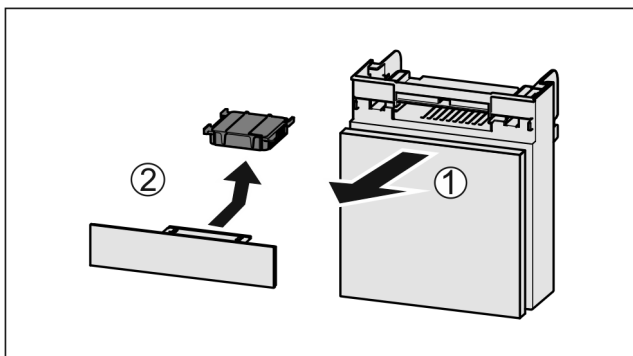

Fig. 181
- ▶ Pull out the compartment Fig. 181 (1).
- ▶ Remove the carbon filter Fig. 181 (2).